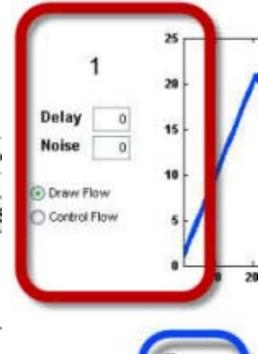

Figure 2c
2. The control panel (Figure 2c)